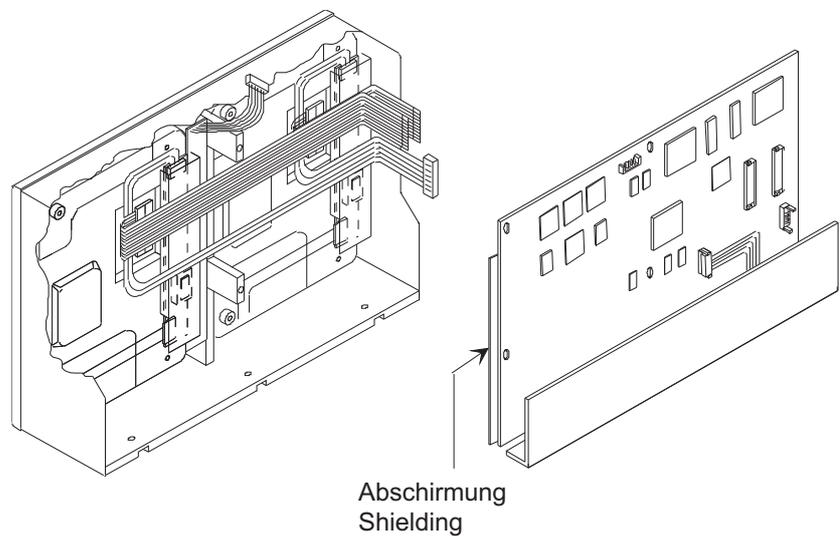

Fig. E 8-4: Removing the mounting unit with main pcb and connector panel
7. Remove the mounting unit of main pcb and connector panel. Store them at a safe place (Fig. E 8-4).